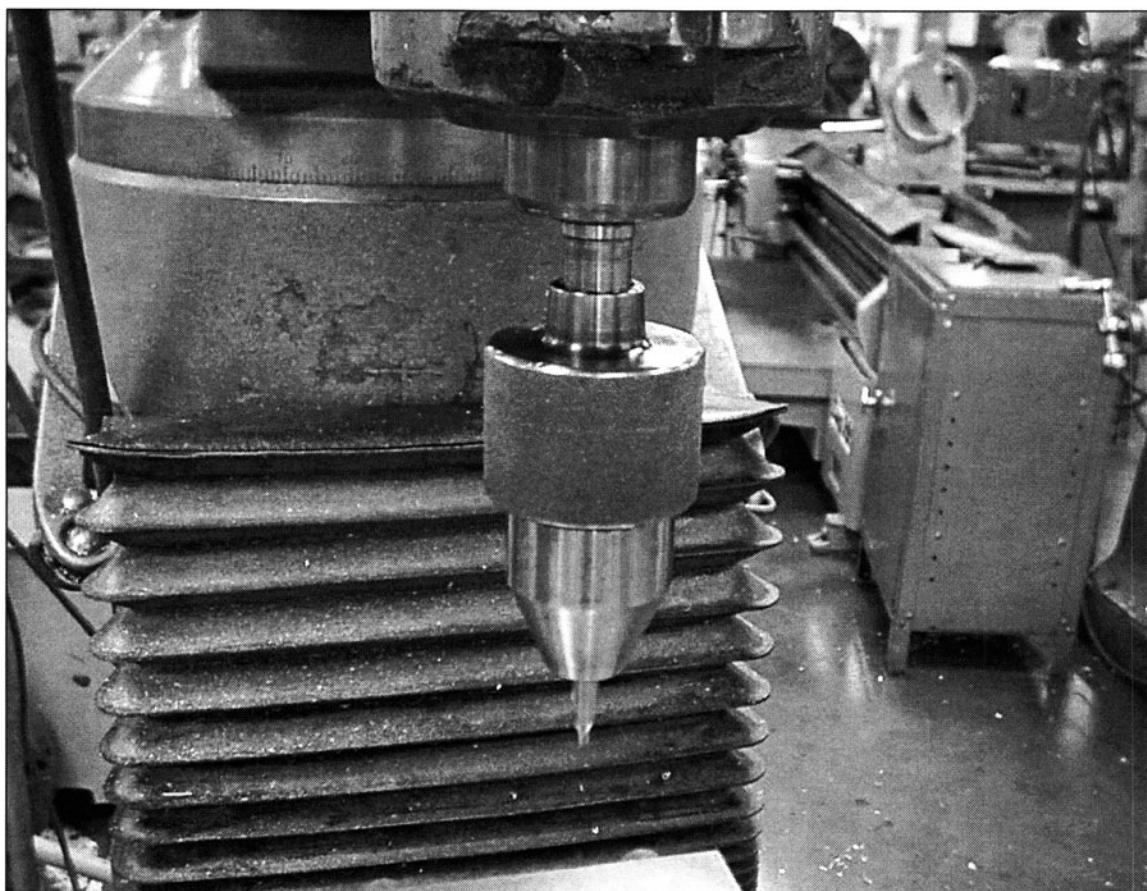

FIGURE 1-4 You can change cutters in quick change drill chucks without stopping the spindle. This chuck was made by Wahlstrom Chuck Co.
8. *Use a speed chuck in a conventional milling machine. (See Fig. 1-4)*